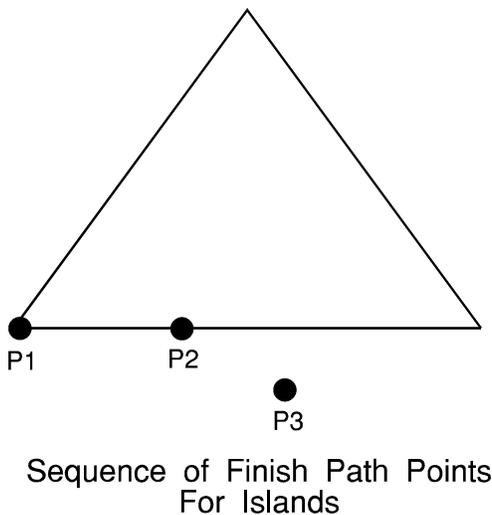

Figure 4.2.6
18. Press <F3> to repeat the last function. Position the mouse cursor near the lower left corner of the left-most island and press the <LMB> (P1). Move the mouse arrow just to the right and press the <LMB> again (P2). Move the mouse arrow below the island and press the <LMB> again (P3). A finish cut path is now around the island. **Figure 4.2.6.**